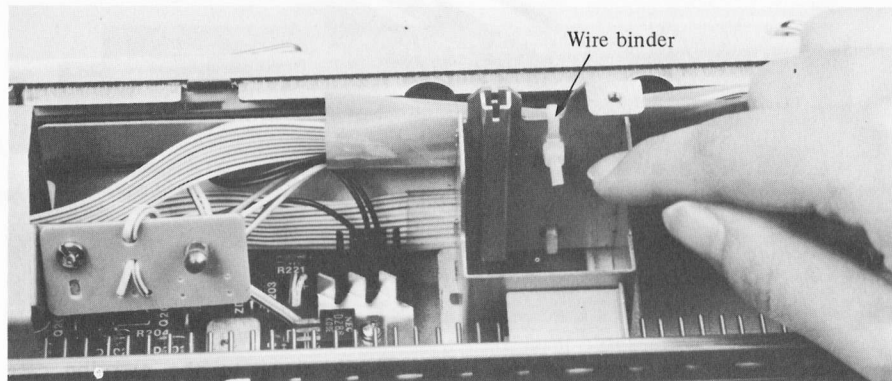

Fig. 75
- 3). Cut the wire binder which is located above the yarn tension stand rod and wire binder which is located near the stepping motor. (Fig. 75)